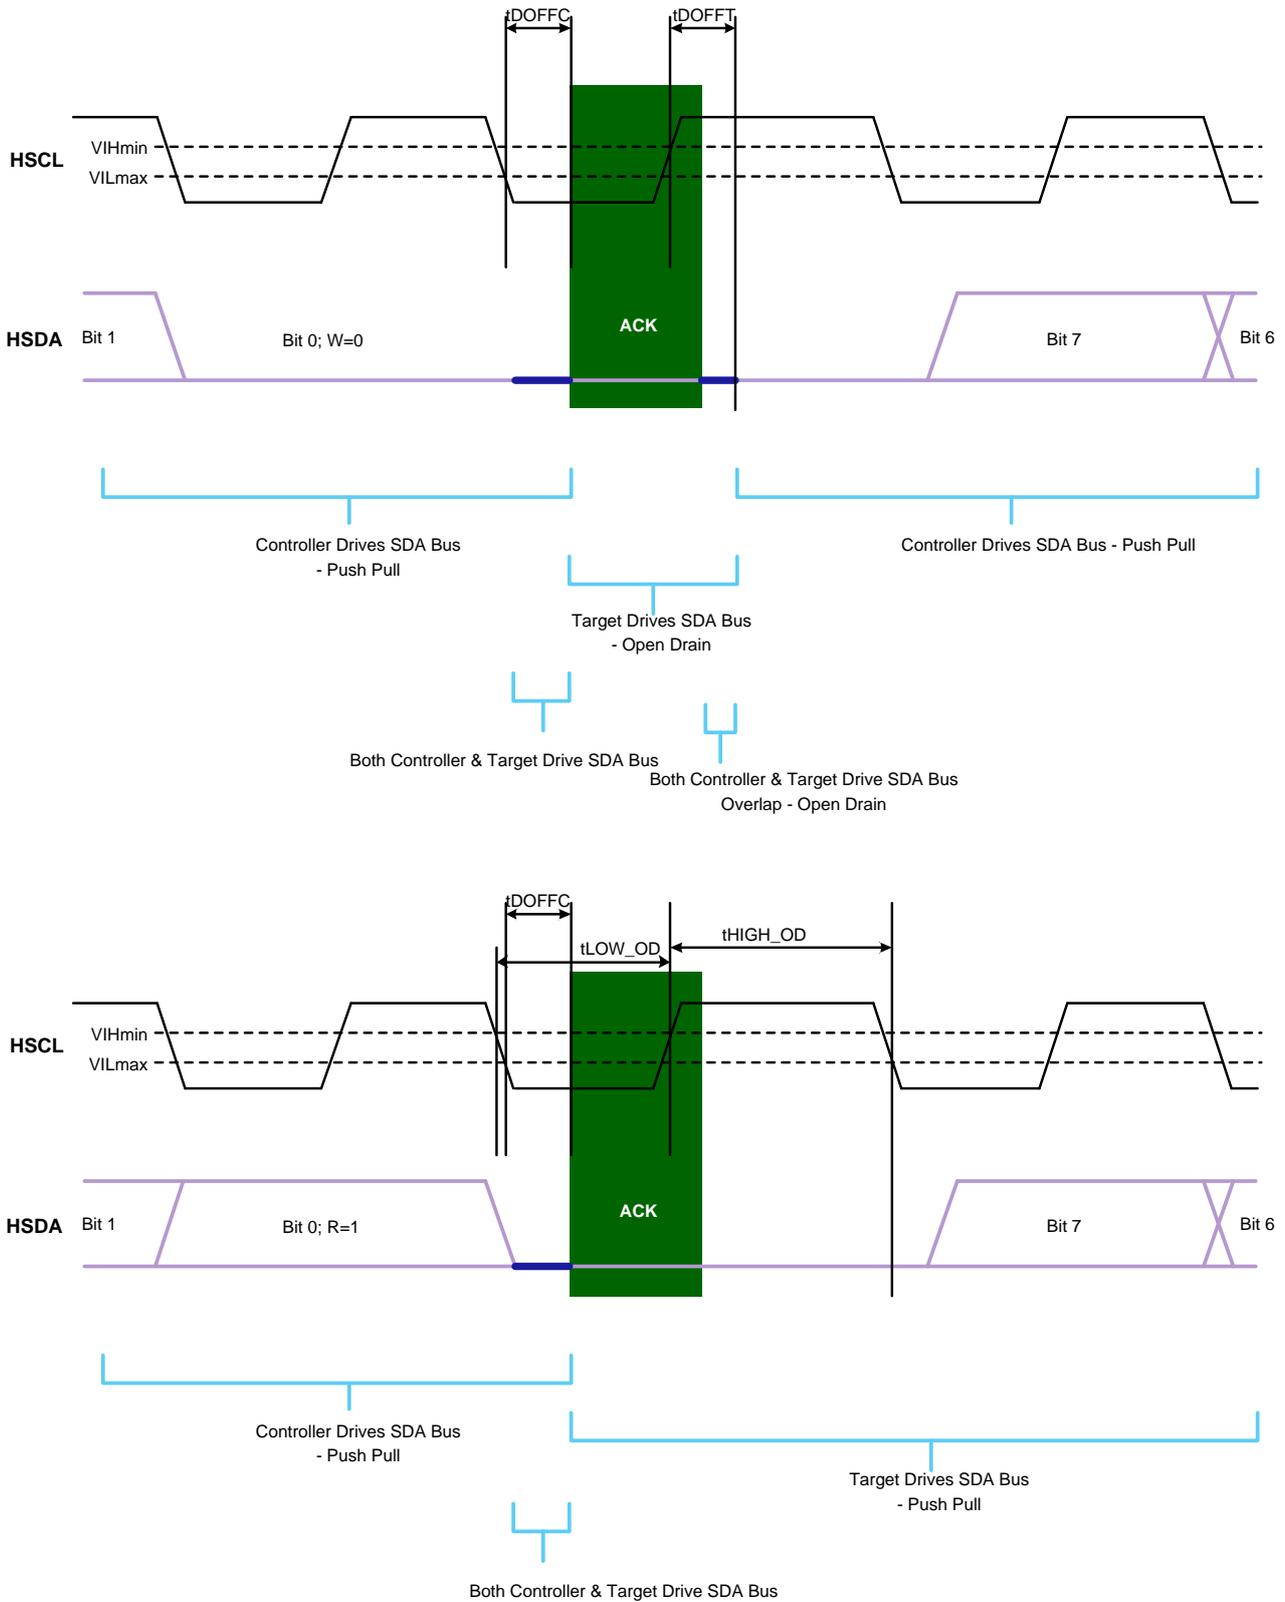

Figure 10. Controller Push Pull to Target Open Drain Hand Off Operation
5. See Figure 10 to see how the transition occurs from Host Push Pull Operation to Target Open Drain (ACK).